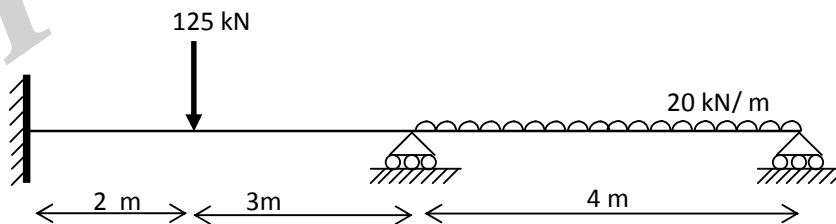

Fig.5
8. Analyse the beam shown in the Fig.5, using stiffness method.